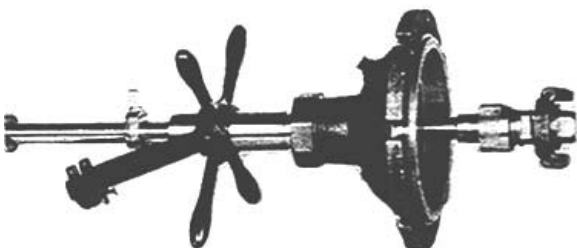

FIGURE 30
25. Attach E-Z Release type of plug extracting tool (part no. 83518) to inserting bar of completion machine. Figure 30.